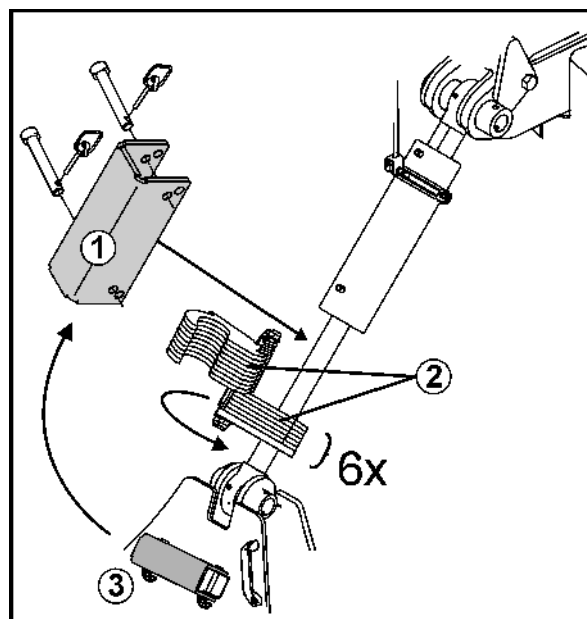

Fig. 8
Mechanical safety of the running gear cylinder (Fig. 8/1) to prevent unintentional lowering of the tines during maintenance work
2. Pivot six of the lowest spacer elements (Fig. 8/2) on the piston rod.
3. Remove the safety unit from the parking position (Fig. 8/3).